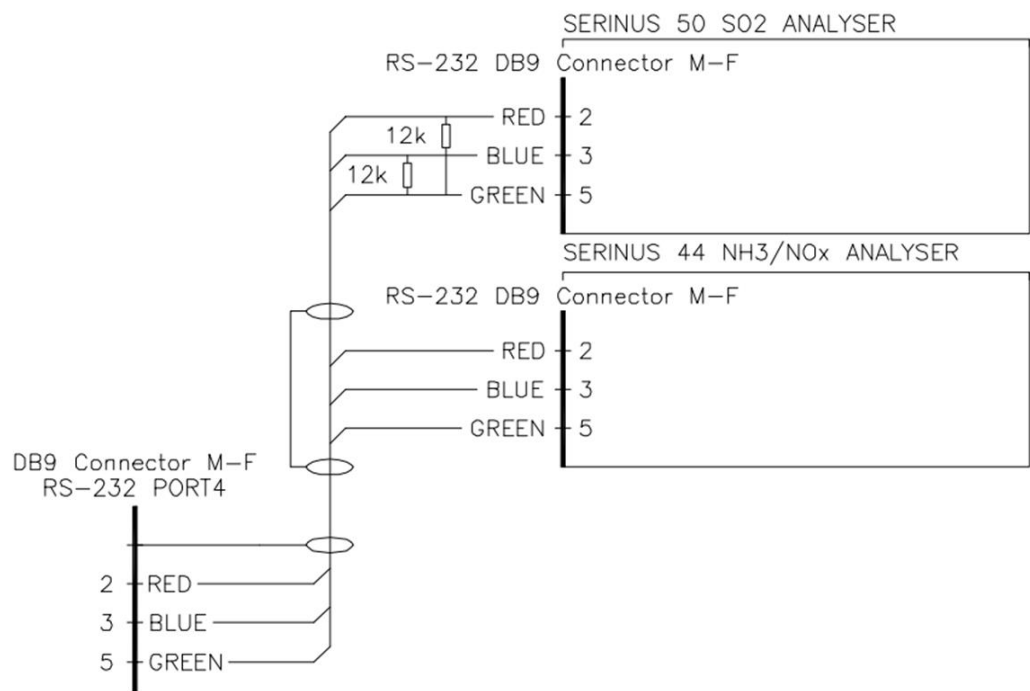

Figure 67 – Multidrop RS232 Cable Example
- A 12K ohm terminating resistor should be placed on the last connector of the cable (connect from pin 2 to pin 5 and from pin 3 to pin 5 – refer to Figure 67).